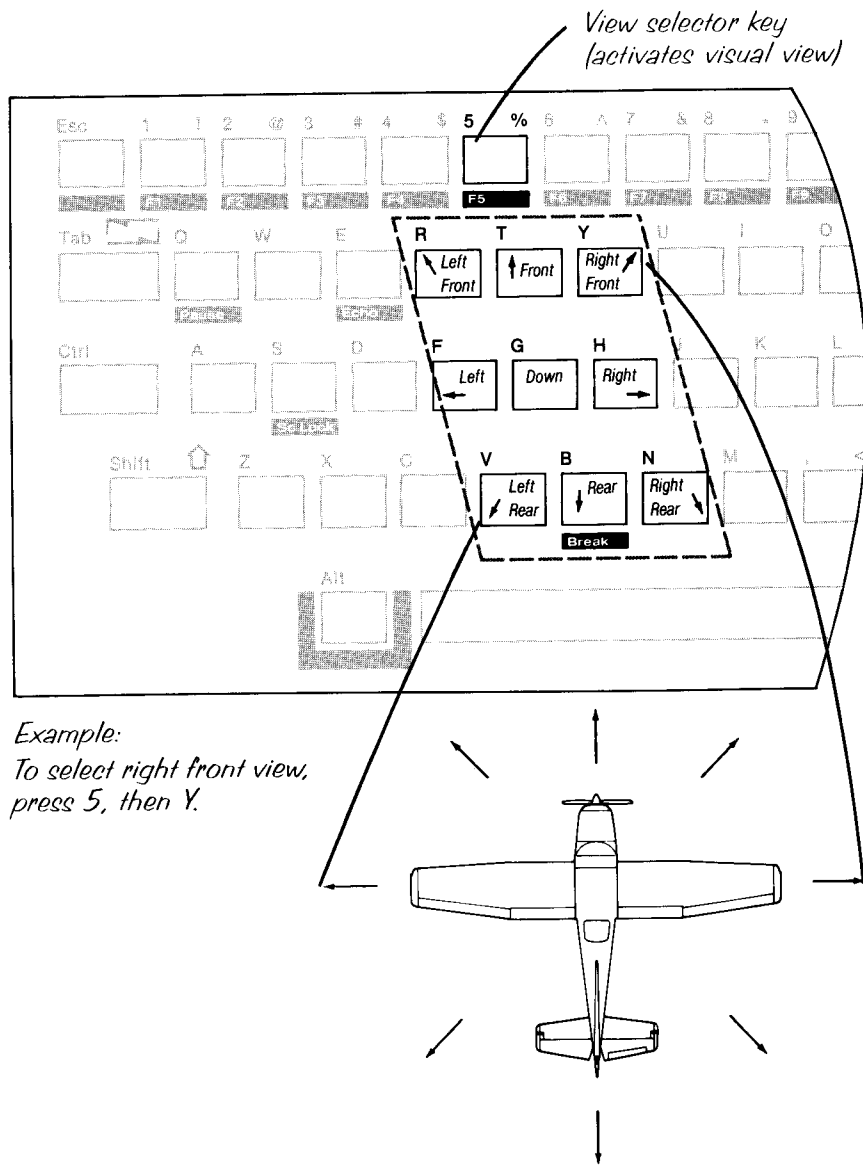

Figure 7. View Selector Controls for the PCjr
When you fly according to Visual Flight Rules, you will need to look around frequently to observe traffic, weather, and obstacles. The view selector lets you choose from nine viewing directions. To use the view selector, press the View key (5) and then any one of the keys on the control yoke (see Figure 7). Do not press the keys simultaneously.